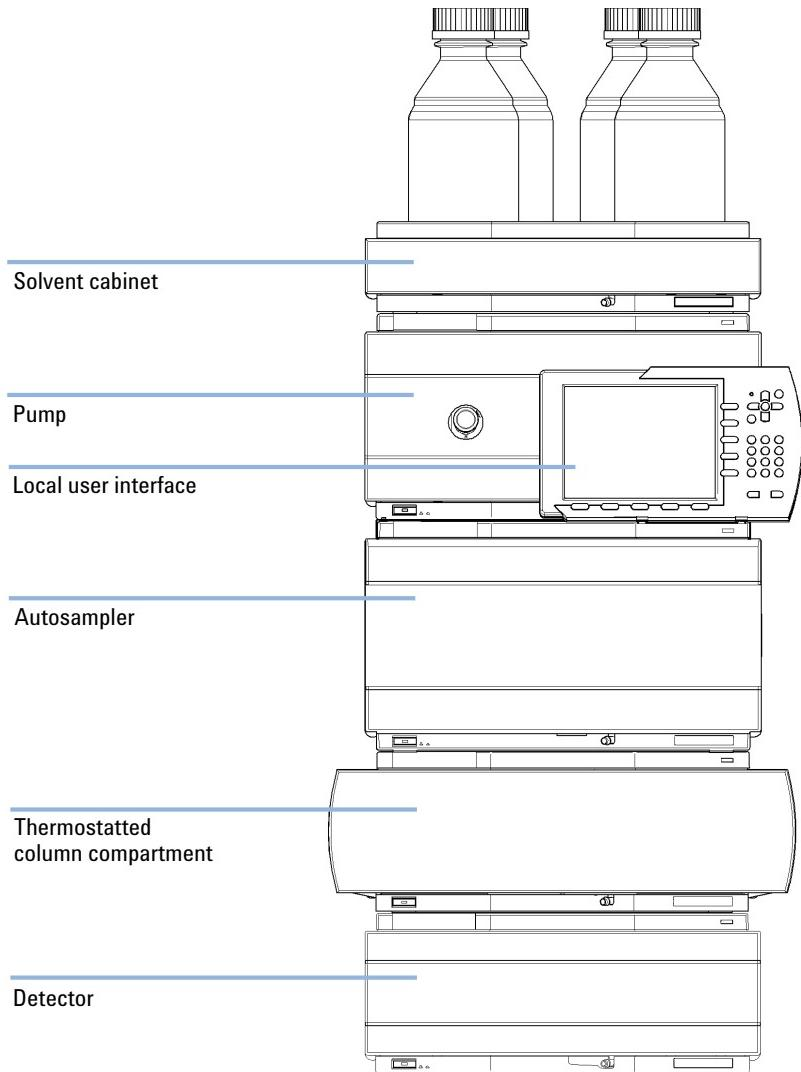
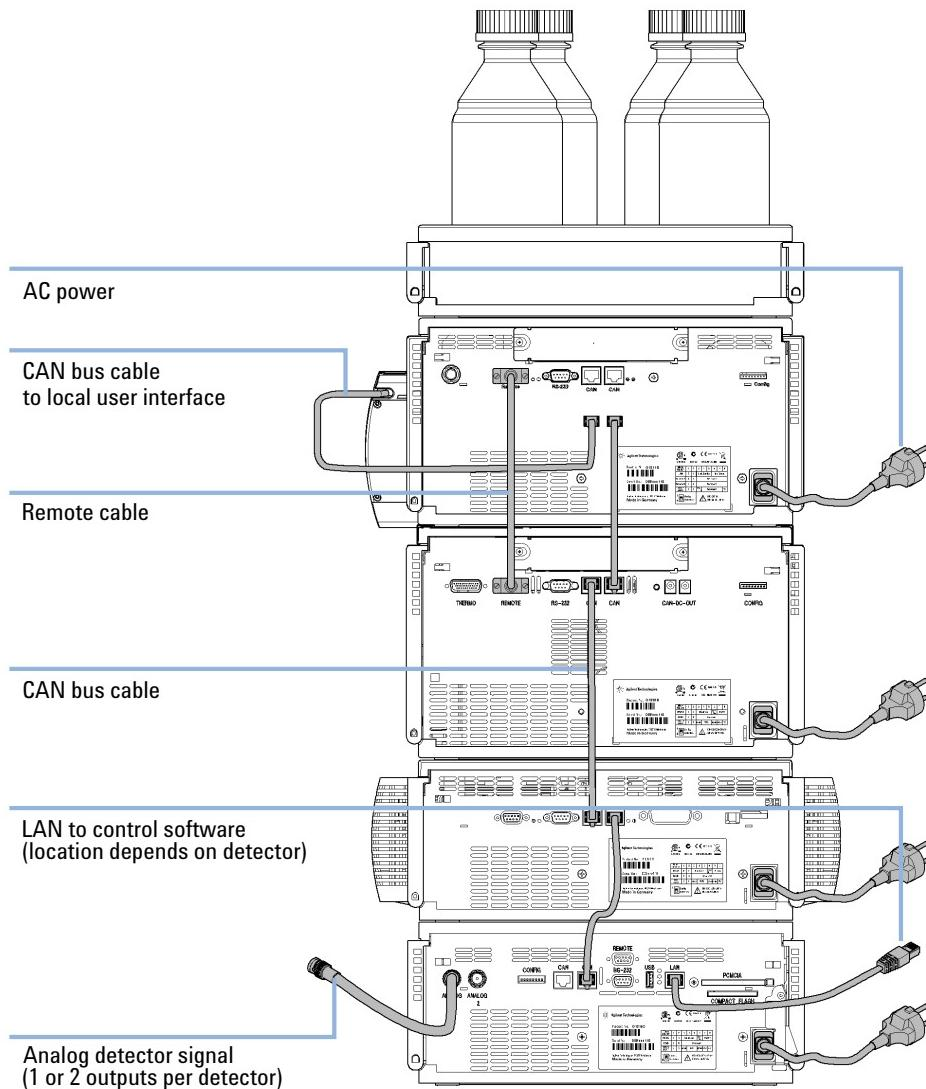

Figure 8 Recommended Stack Configuration (Front View)
Figure 9 Recommended Stack Configuration (Rear View)
Ensure optimum performance by installing the modules of the Agilent 1260 Infinity LC System in the following configuration (see Figure 8 on page 47 and Figure 9 on page 48). This configuration optimizes the flow path for minimum delay volume and minimizes the bench space required.
- 1 Place the individual modules in a stack configuration as shown in Figure 8 on page 47.
- 4 Connect the CAN cable to the CAN connector of the next module, see Figure 9 on page 48.